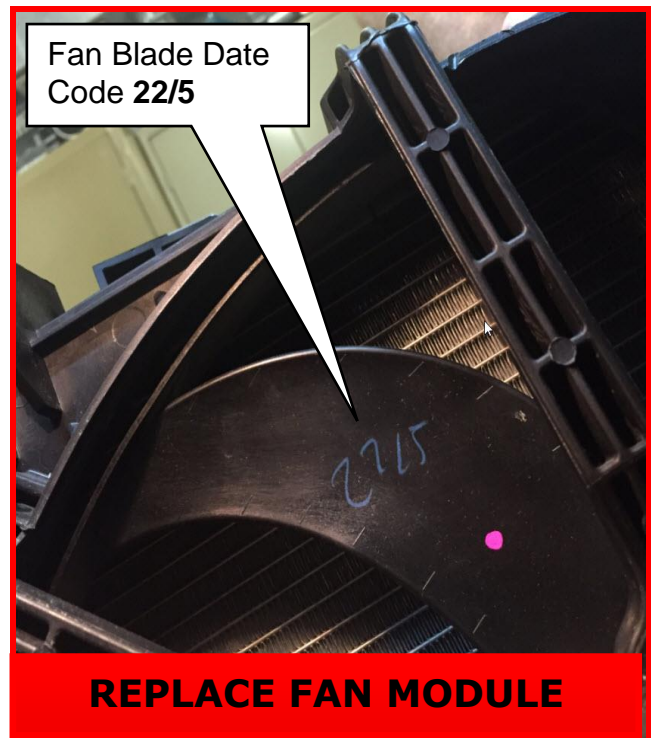

Figure 3
6. Is the fan blade date code "**22/5**" (**May 22nd**)? (Refer to Figure 3)